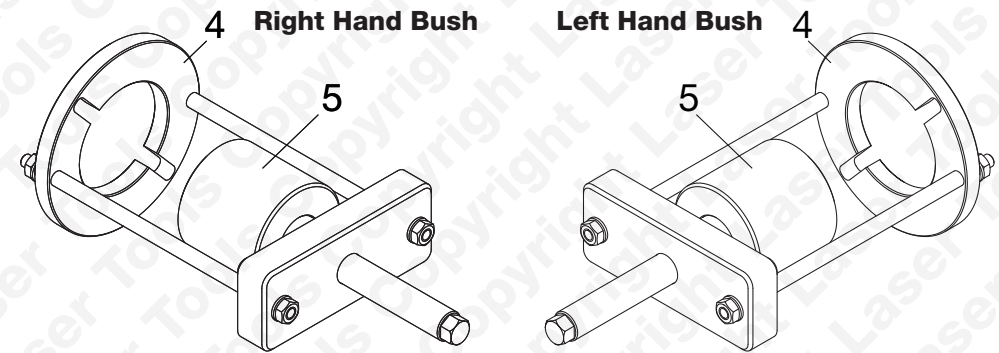
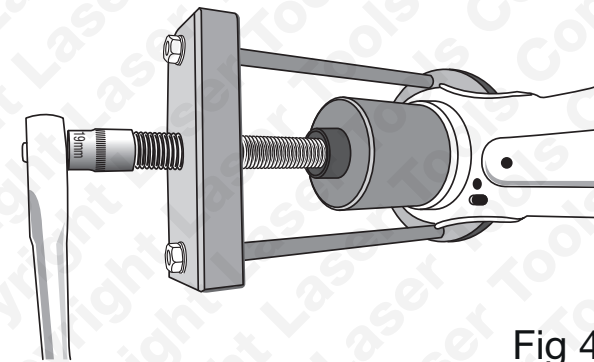

Fig 3
Fig 4
- Using the components shown in **Fig 3** mount the bush tool on the arm as shown and push out the old bush by turning the force screw in a clockwise direction as shown in **Fig 4**: